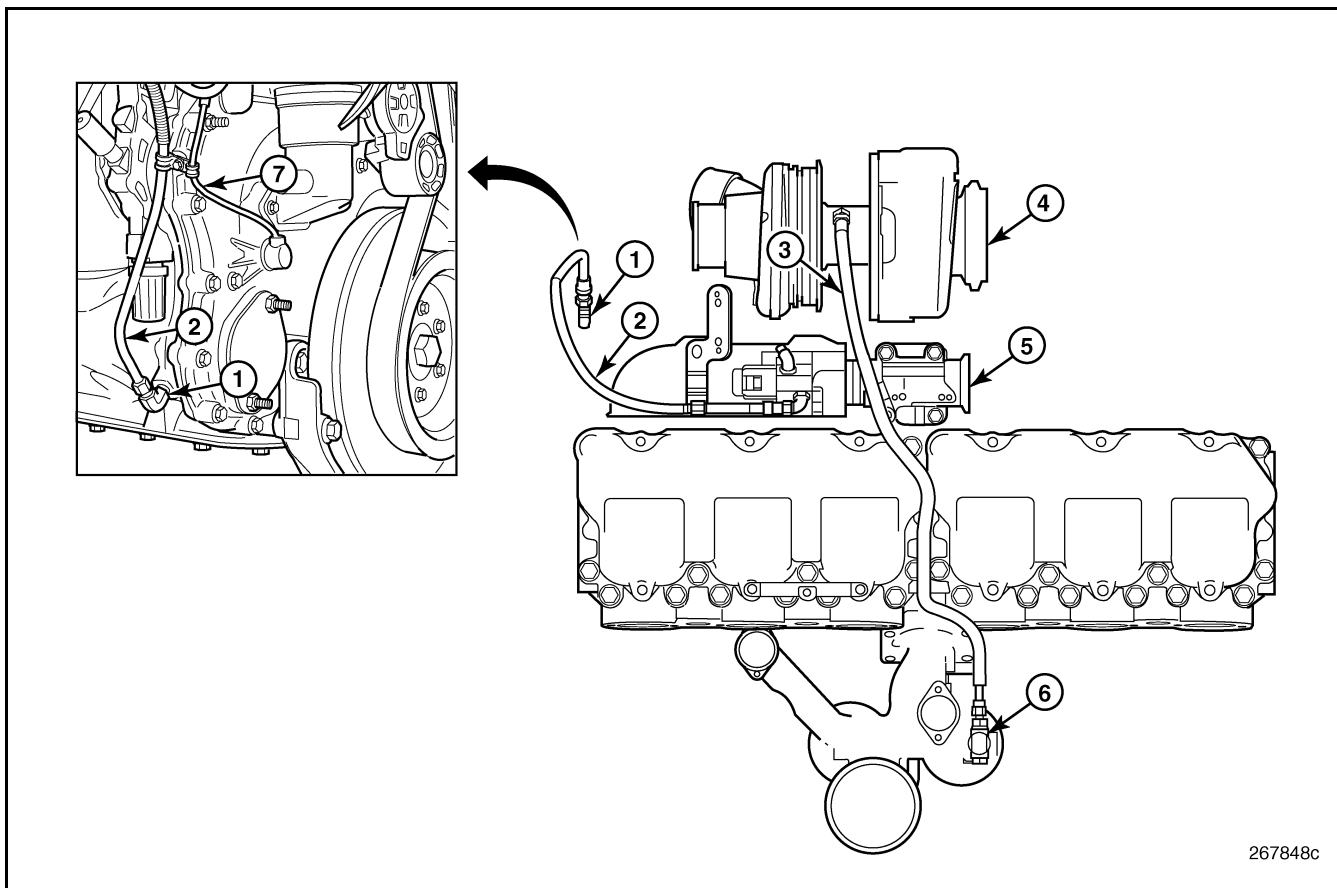

Figure 418 — EGR and VTG Oil Supply Lines (AC Engines Built After December 2003)
in Figure 418. These are both direct oil lines without the use of any junction blocks or F-fittings. For J-Tech™-equipped engines, a No. 10 size line is connected between the oil filter mounting bracket and a junction block at the left side of the cylinder heads. Oil is supplied to the J-Tech™ engine brake assemblies (if equipped) from this block. A No. 6 size line passes between the cylinder heads directly to the turbocharger.
2. Reconnect the EGR oil line to the fitting on the cylinder block oil supply port (item No. 1, Figure 418).